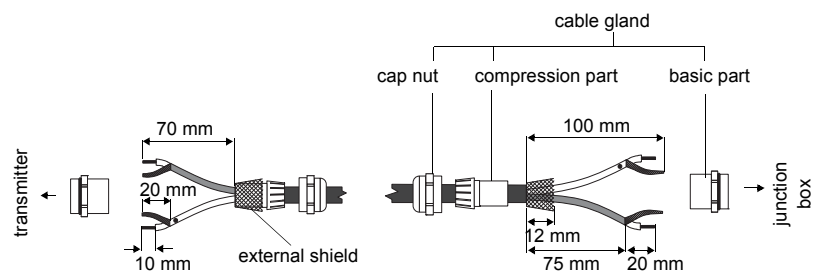

Fig. 6.5: Preparation of the extension cable
- Open the cable gland. The compression part remains in the cap nut (see Fig. 6.5).
- Fix the cable gland by screwing the cap nut onto the basic part (see Fig. 6.5).